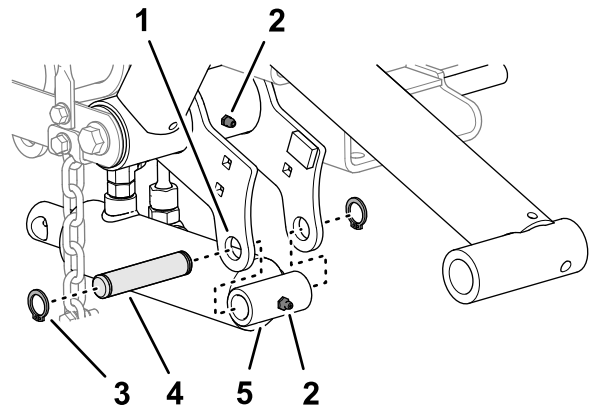

Figure 12
1. Align the cap end of the lift cylinder with the holes in the left lift-arm flanges (Figure 12).
2. Assemble the cylinder to the flanges with the mounting pin and 2 snap rings (Figure 12).
3. Apply No. 2 lithium grease to the grease fittings of the lift arm and the hydraulic cylinder (Figure 12).